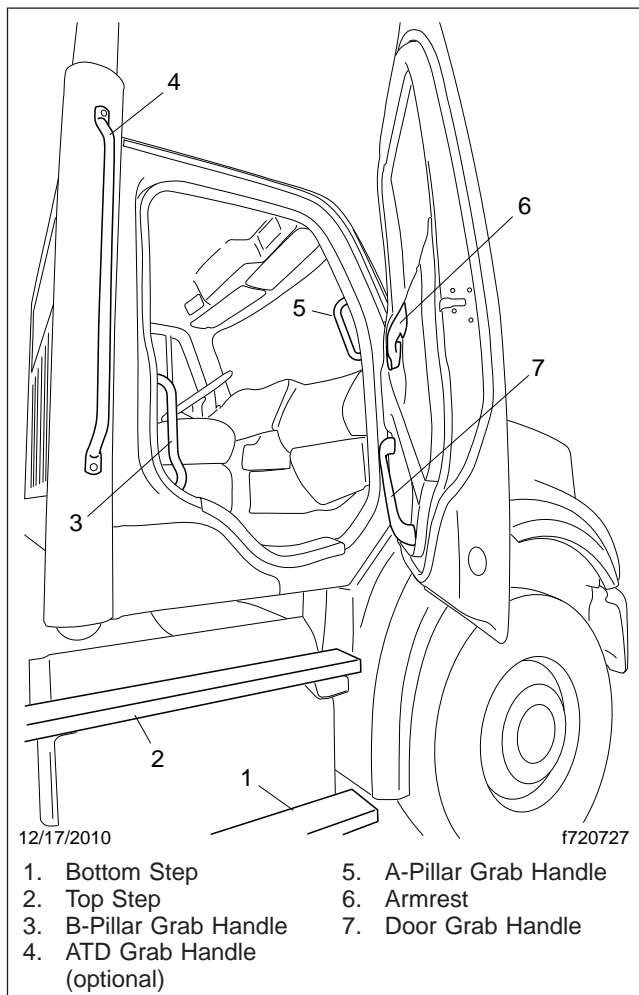

Fig. 2.5, Cab Access System, Passenger's Side and Back of Cab
2. Using your left hand, grasp the B-pillar grab handle. See Fig. 2.5.
2. Grasp the A-pillar grab handle with both hands, then place your right foot on the top step while standing up from the seat facing inward. See Fig. 2.5.